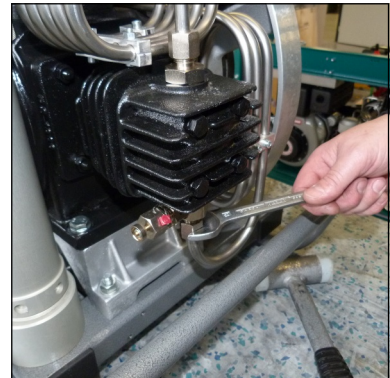

Fig. 1 - Loosen pipe connections
- Tighten pipe connections (Fig. 1).